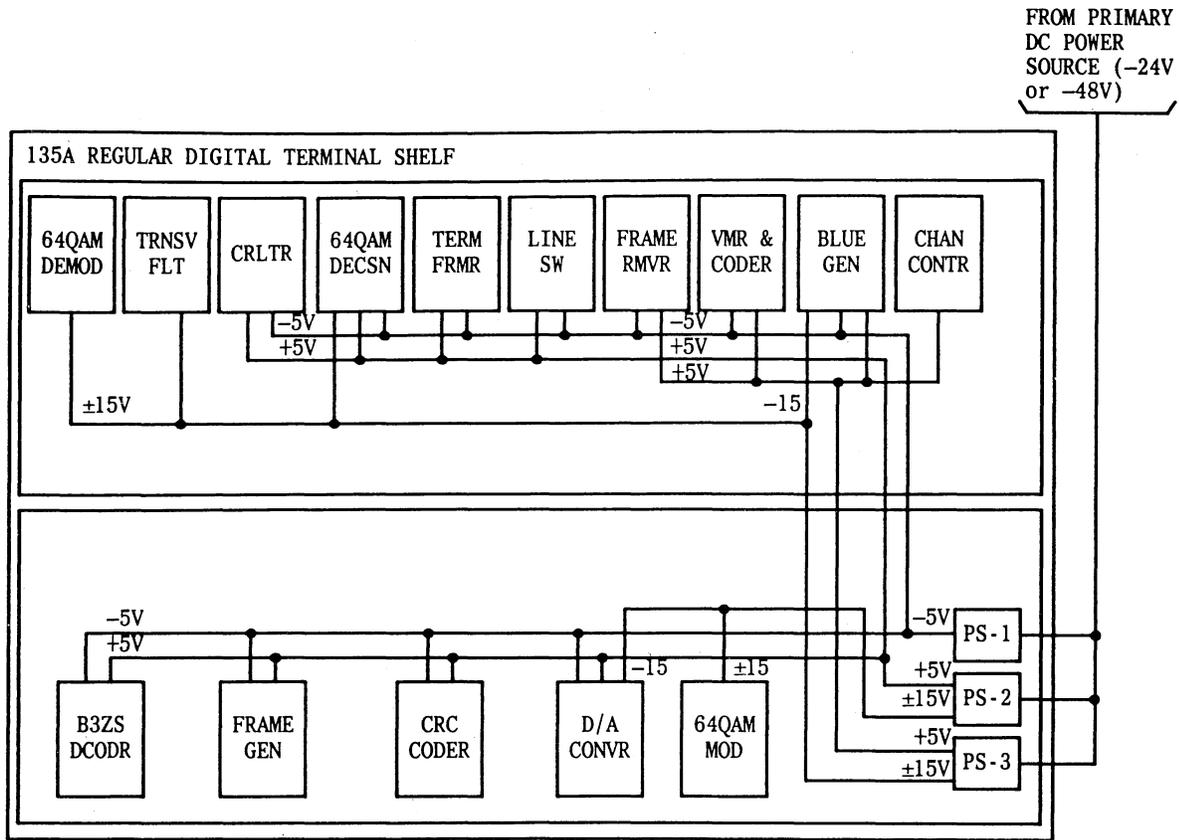

Fig. 38—135A Regular Digital Terminal Self Power Distribution
- Figure 38—135A Regular Digital Terminal Shelf Power Distribution.